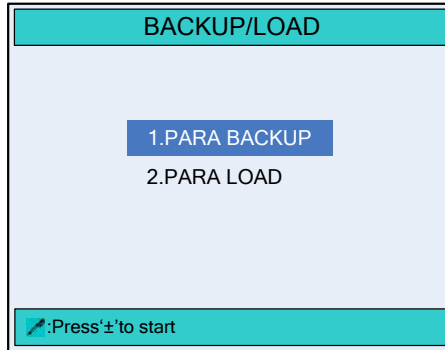

Figure 3-8 The **BACKUP/LOAD** page
On the **SYS PARA.** page, move the cursor to parameter **5.BACKUP/LOAD** (or press the number key 5), and press  to enter the **BACKUP/LOAD** page, as shown in Figure 3-8.